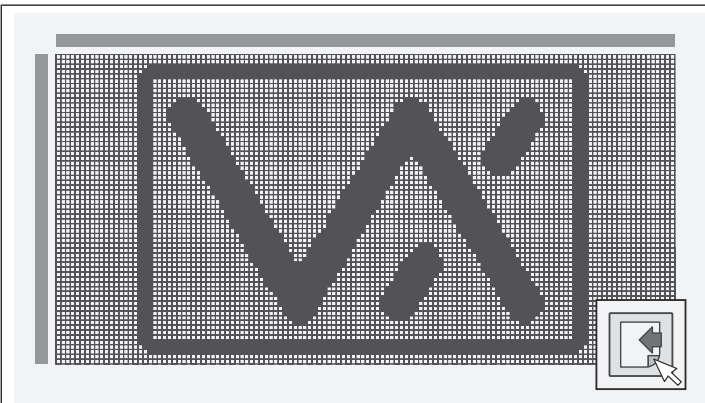

Fig. 90
1. Click on the import icon. When the open window appears locate the required image (logo etc.) and click on the 'OPEN' button to import the file, **Fig.90**.